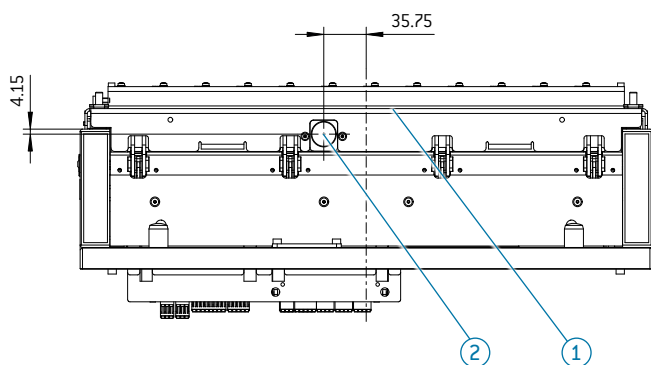

Fig. 173
- ① Adapter
- ② Turck RFID TAG
- ③ RFID TAG holder
- ④ Platform
- ⑤ Sick read/write head
- ⑥ Receiver
- ⑦ Mounting plate
- If the system is operated with a customer platform and any other RFID read/write head, the necessary dimensions for the intended installation position of data carrier ② in adapter ① are shown in Fig 173.